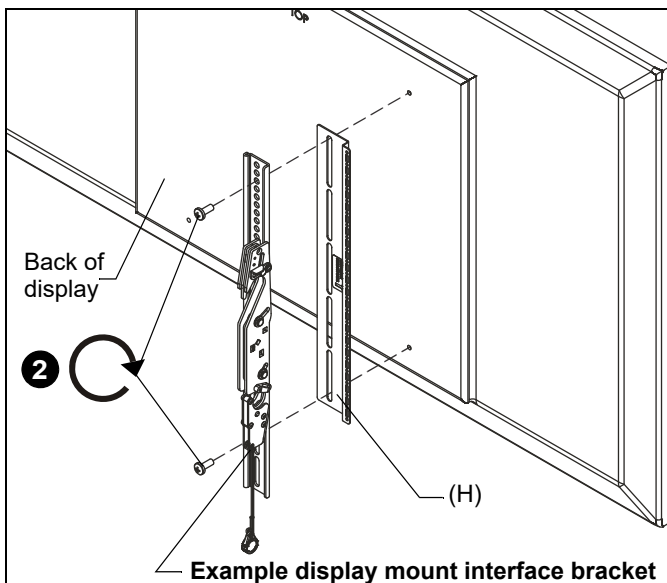

Figure 2
2. Use the hardware provided with your display mount interface brackets to attach mounting bracket (H) between the display mount interface bracket and into the VESA holes in the back of the display. (See Figure 2)